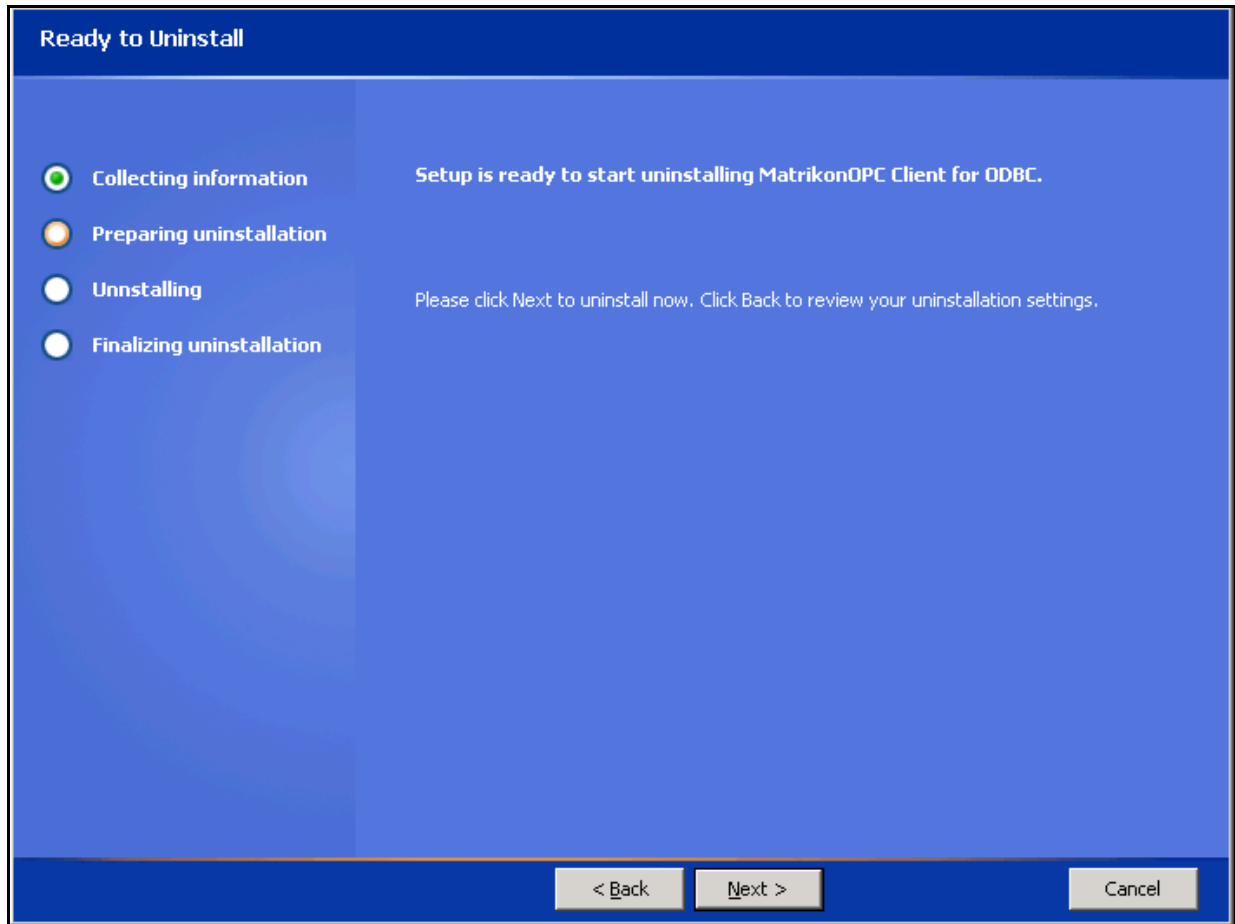

Figure 44 – Ready to Uninstall Screen
6. Click the **Next** button. The **Ready to Uninstall** screen (Figure 44) is displayed.